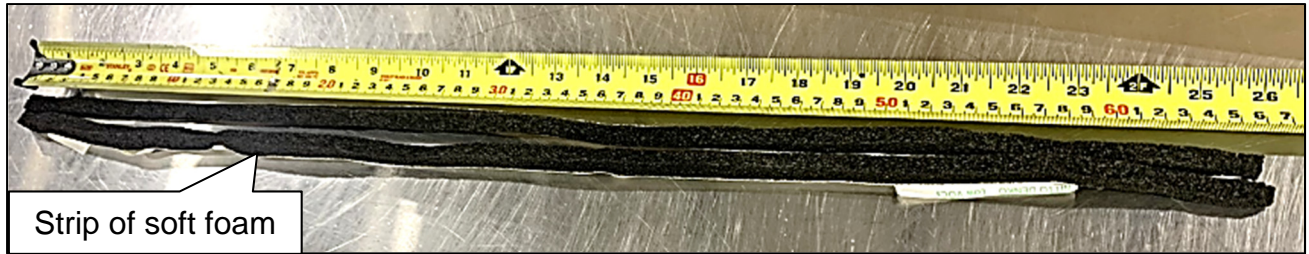
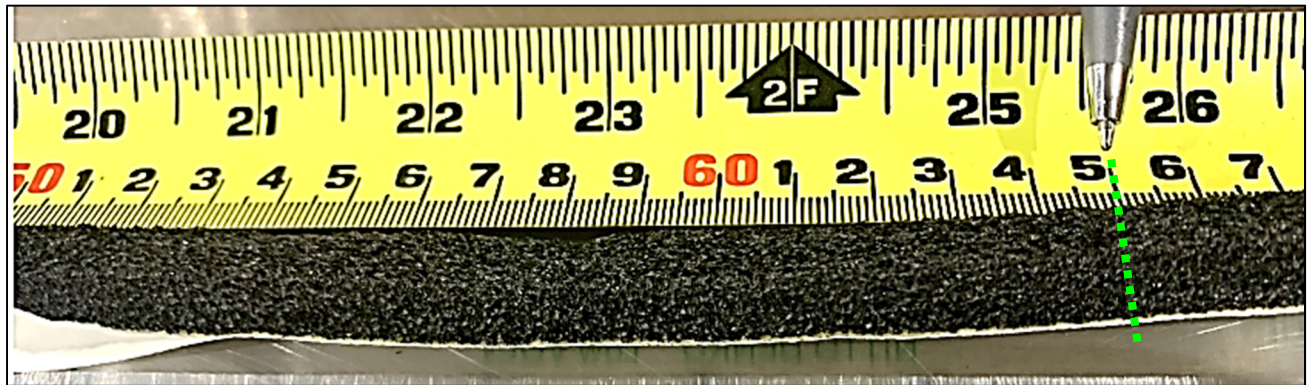

Figure 1
Figure 2
1. Measure and cut the soft foam from **PARTS INFORMATION** in two (2) 650 mm (25.625 in.) pieces (Figure 1 and Figure 2).